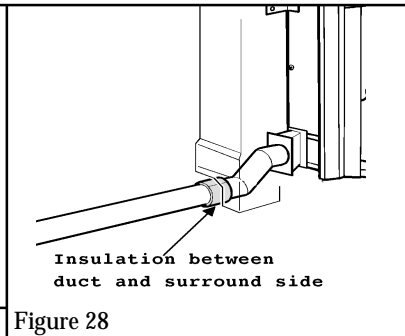

Figure 28
8.13 When installed in a fire surround made of wood or other “combustible” material, the ducting must be insulated from the surround where it passes through the aperture in surround side. Wrap the insulating gasket round the duct and secure with the sealing tape supplied as shown in figure 28.